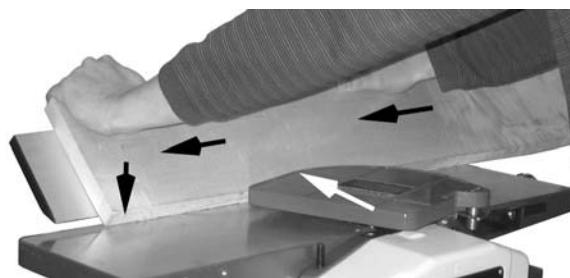

Figure 25
5. Feed the stock through the cutterhead, making sure the face of the stock is completely flat against the fence and the edge is making solid contact on the infeed and outfeed tables (Figure 25).